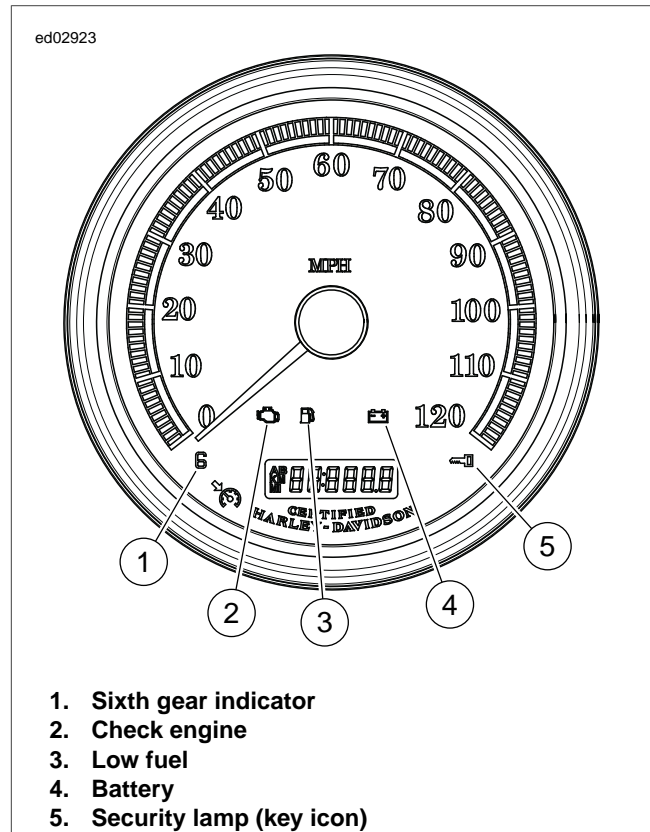

Figure E-11. Speedometer
- For a quick check of speedometer function, a "WOW" test can be performed. Press and hold trip odometer reset switch then turn Ignition Switch ON. Release trip odometer reset switch. See Figure E-11. Background lighting should illuminate, gauge needles should sweep their full range of motion, and indicator lamps (battery, security, low fuel, and check engine) should illuminate. All lamps should illuminate, even those not used in normal vehicle operations.